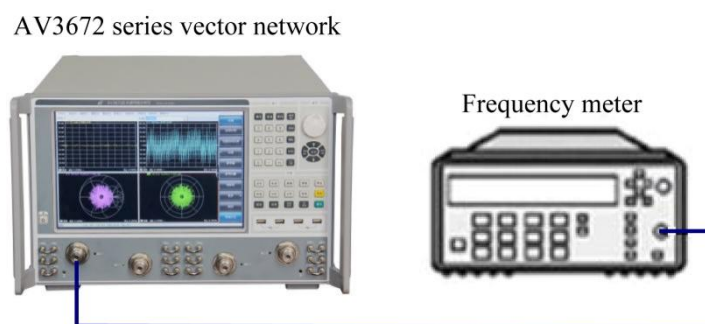

Fig.11.1 Block Diagram of Frequency Accuracy Test
- 1) As shown in Fig. 11.1, connect the system and preheat is for 60min at least.